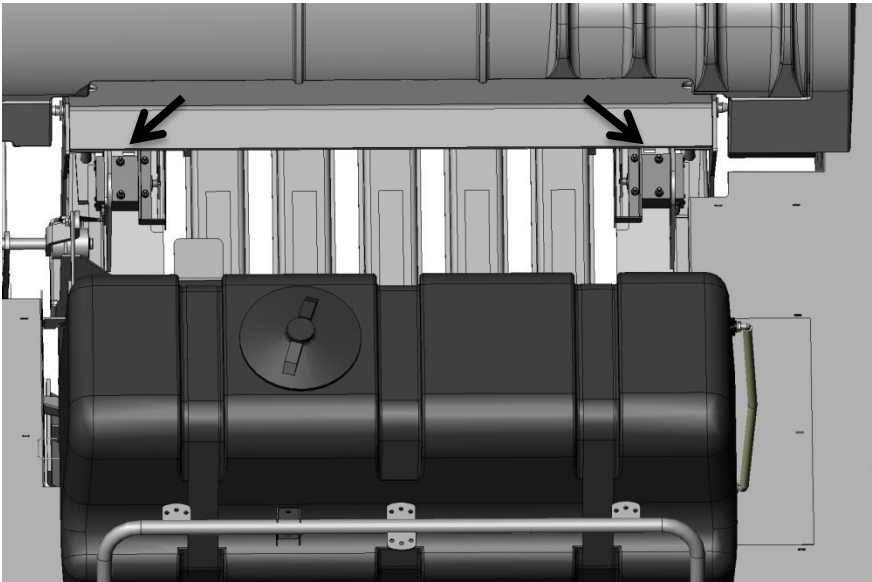

Figure 5
2. Directly behind the knotters, locate the four predrilled holes per side shown at the arrows. This location is also beneath the lift points on top of the baler (Figure 5).